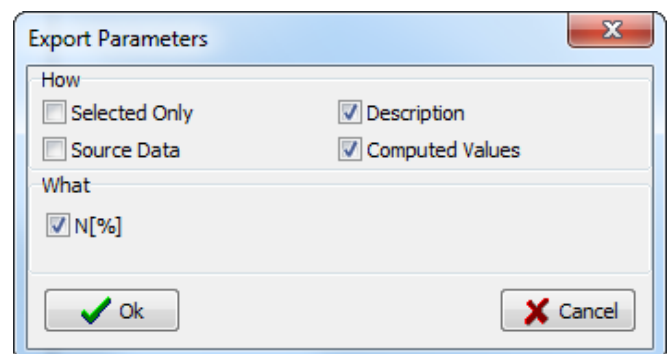

Fig. 18 Data export.
4. For **export** press **File > Export** or **Export** icon, select what you want to export (Fig. 18).